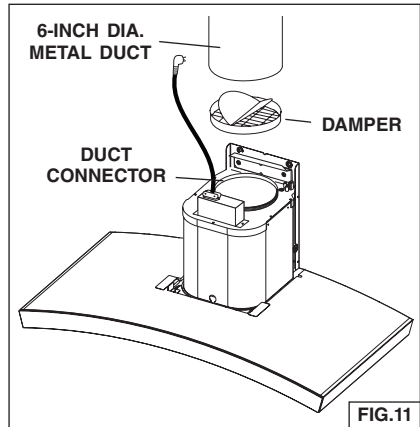

FIG.11
1. Press the damper over the duct connector on the hood and tape joint with aluminum duct tape. Fig. 11.
7. Secure upper flue to flue mounting bracket with (2) 3.9 x 6 mm screws.